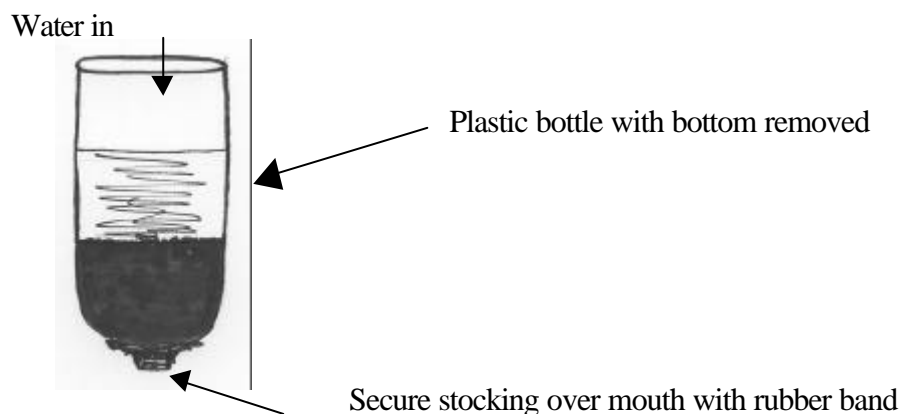

Figure 1. Set up for examining porosity and permeability
- Cut the bottom of each soft drink bottle (see Figure 1).